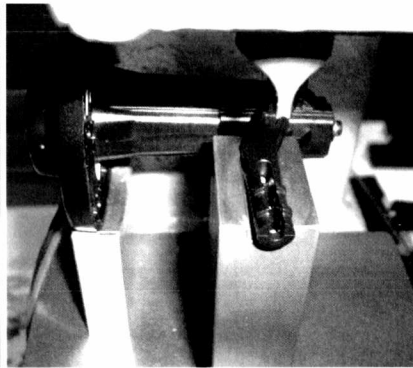

Figure 15.
- 14.) Place the housing and pivot arm assembly onto the nest with the hole on the pivot arm over the guide post where the push nut is located (Figure 15).